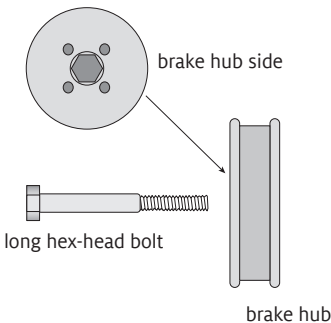
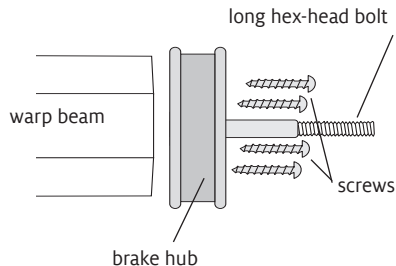

FIGURE 4
FIGURE 5
Refer to figures 4 and 5 for replacing the brake hub.
**3. Attach the new hub to the warp beam:** Assemble the brake hub as follows: insert the long bolt into the back side of the brake hub. The bolt head will fit into the hexagonal flange at the center (figure 4). Install the new brake hub on the warp beam, using the four screws (figure 5).